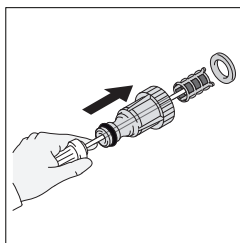

Fig. 14
- The screen inside the clear adapter should be cleaned periodically. Insert a pen or pencil in small hole at the end of the adapter. The screen filter will slide out (Fig. 14). Rinse it with clean water, and then place it back in the adapter.